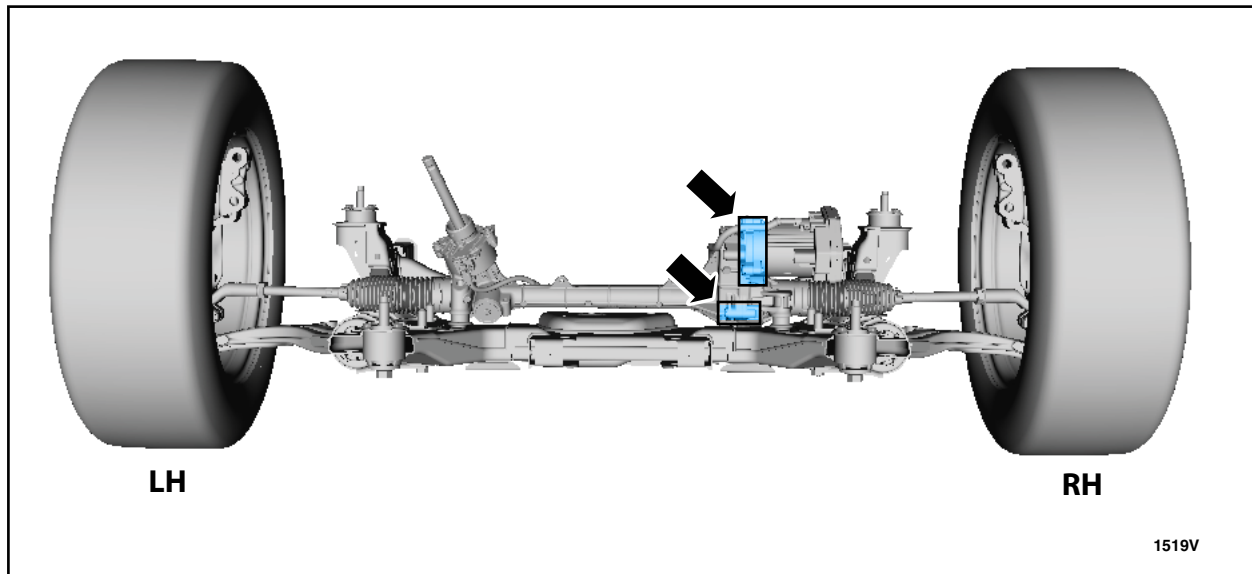

FIGURE 17
3. Working from the rear of the subframe, insert nozzle between the steering gear and subframe underneath housing seam. Apply corrosion inhibitor to gear motor bolt three, steering gear to housing seam and housing bolts four and eight heads, threads and thread holes. See Figures 17 and 18.